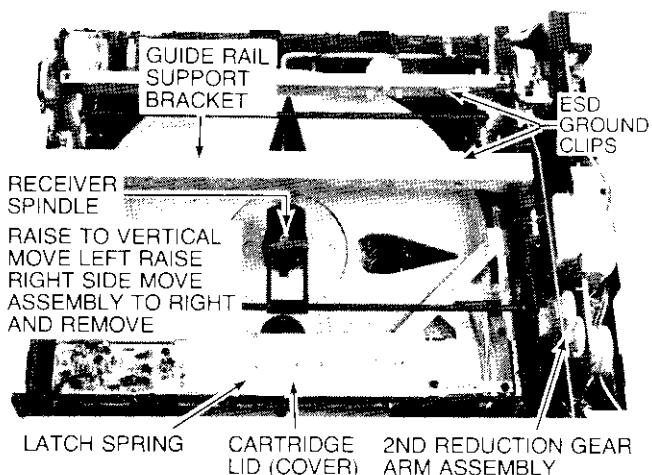
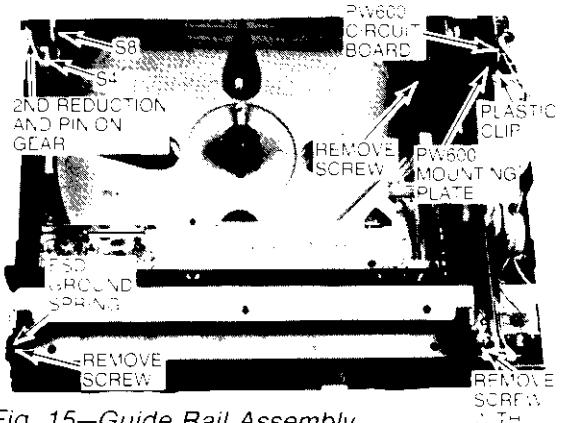

Fig. 14—Stylus Cartridge and Receiver Spindle
Fig. 15—Guide Rail Assembly
1. If cabinet top has been removed remove receiver spindle assembly (Fig. 14), also remove stylus car-
2. Using thumb—rotate 2nd reduction gear (Fig. 14) in counter clockwise direction moving the arm assembly to a point where the stylus cartridge access cover (lid) is accessible.
1. With cabinet top removed—rotate receiver spindle assembly to a vertical position (Fig. 14).
1. Place player in "Load" mode and remove AC plug from AC power source. With cabinet top and front panel removed—remove guide rail assembly front support bracket ESD ground spring Fig. 15, and ground clips from guide rail bracket and pivot support brackets (Fig. 14).
12. Remove three (3) posidrive (+ head) screws (Fig. 15).